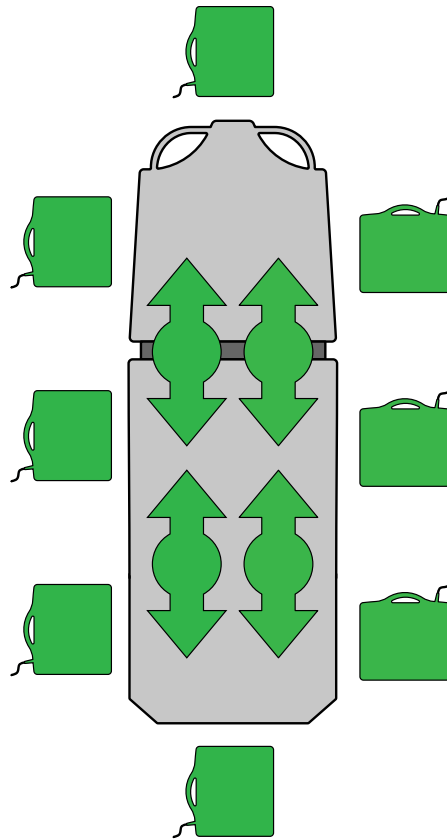

Figure 17 – Inserting or removing X-ray cassettes
1. Center the patient on the product with the position indicator labels located on all sides of the product (Figure 17).